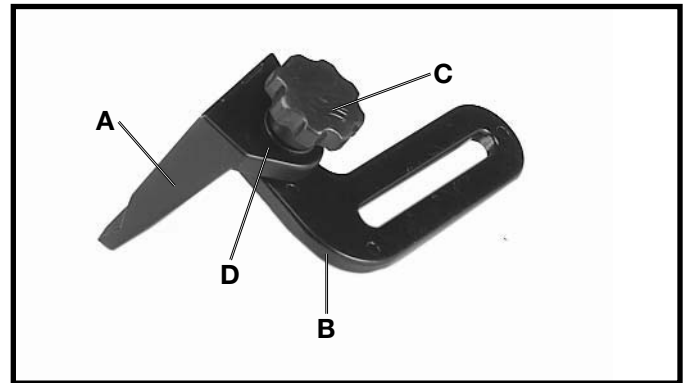

Fig. 3
1. Assemble left tool rest (A) Fig. 3, to left tool rest arm (B), as shown, and fasten with one 5/16-18x3/4" knob (C) and 5/16" flat washer (D). Assemble the remaining tool rest in the same manner. Do not completely tighten hardware at this time.